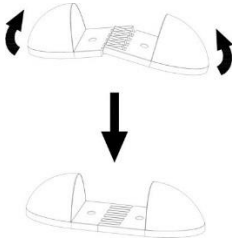
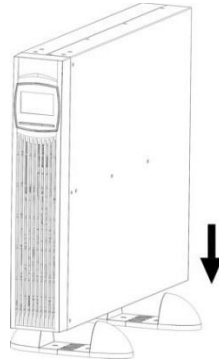

Figure 7: Foot mounting
Figure 8: Installation of the rack-tower-versatile model as a tower
5. You can also install this rack-tower-versatile model as a tower. To do this, connect the two components to one foot (see Figure 7) and push the UPS system into the two feet from above (see Figure 8). Make sure the distance between the two feet is as great as possible to ensure stability. If you are using additional battery packs, use the extension plates for the foots.